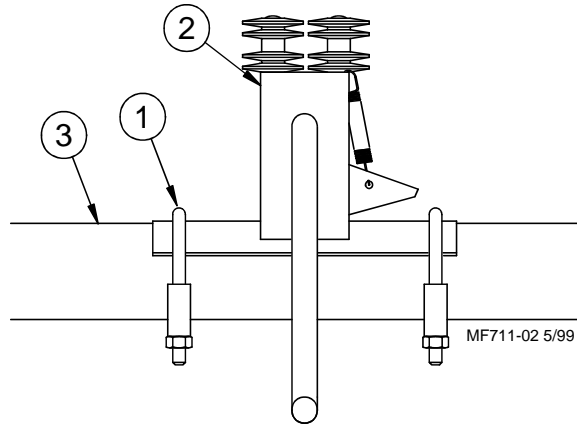

Figure 2. Winch Installation (side view)
1. Use two Tube Clamps provided to fasten the Winch to the Feeder Line Tube. See Figure 2.